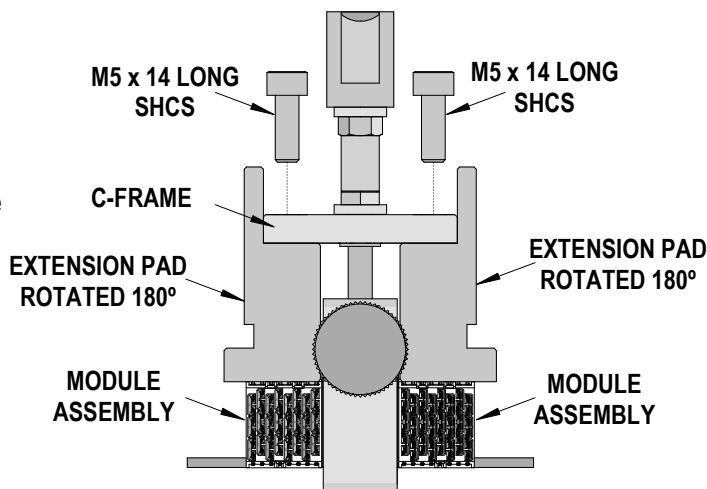

Figure 9
1. Remove the M5 x 14 long SHCS on each the side where the extra modules are located. See Figure 9.